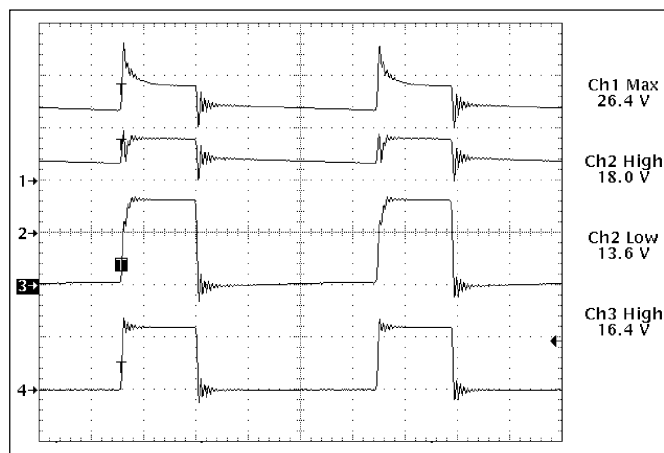

Figure 7: V_{CC2} Charge Pump Operation (1 μ s/div).
In order to fully turn on the high side NFET, a voltage greater than the input voltage must be applied to V_{CC2} to bias the GATE(H) driver. Referring to the application diagram on page 1; a simple charge pump circuit can be implemented for this purpose through capacitor C6, resistor R1, and diodes D1 and D2. The input voltage, less the drop in D1 is stored in C6 during the off-time period. When the high-side FET turns on, it drives the inductor switching node and C6 high causing schottky diode D1 to reverse bias. The charge stored in C6 is transferred to V_{CC2} through R1. Zener diode D2 clamps the V_{CC2} voltage to 18V to prevent the V_{CC2} from exceeding its 20V Max rating (see Figure 7).